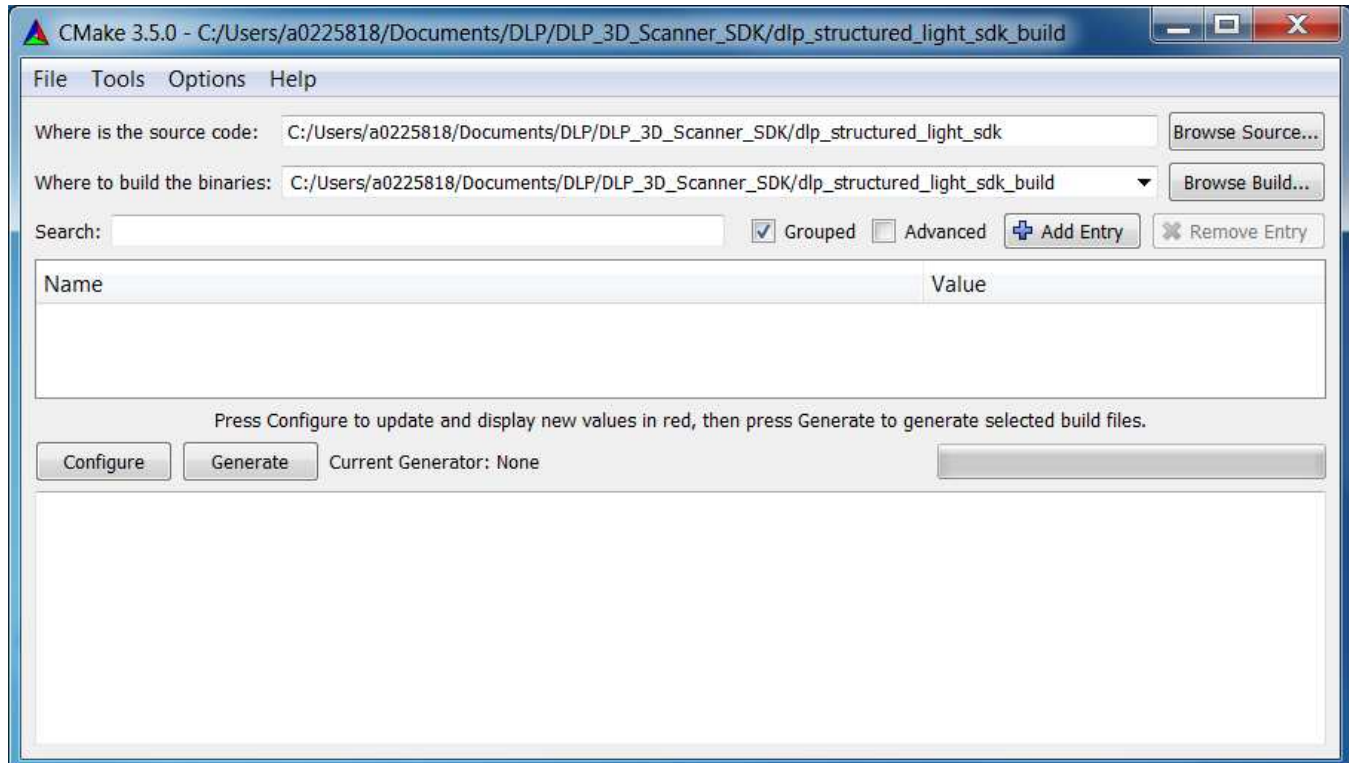

Figure 45. DLP ALC SDK File Paths
3. Next, click “Browse Build.” Create a new folder for the built DLP ALC SDK. Figure 45 shows what the CMake GUI should look like. An example file path with a new folder for the built files would be: C:/TexasInstruments-DLP/DLP-ALC-LIGHTCRAFTER-SDK-2.0_bld.